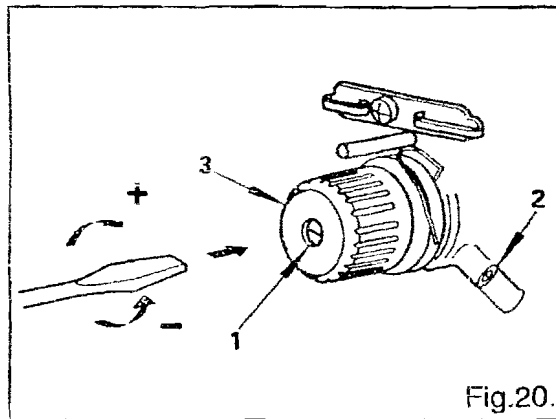

Fig.20.
16. REGULATE THE TAKE-UP SPRING (Fig.20)
Using a screwdriver in slot of stud 1, Fig.20 regulate take-up spring tension by turning stud (1) as required.